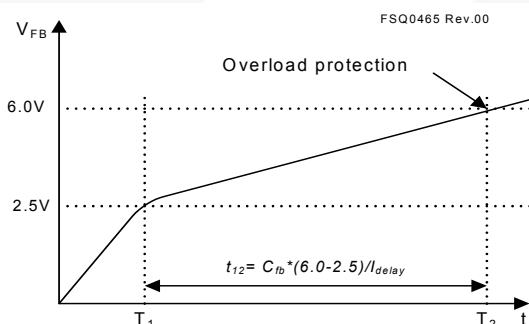

Figure 29. Overload Protection
**4.1 Overload Protection (OLP):** Overload is defined as the load current exceeding its normal level due to an unexpected abnormal event. In this situation, the protection circuit should trigger to protect the SMPS. However, even when the SMPS is in the normal operation, the overload protection circuit can be triggered during the load transition. To avoid this undesired operation, the overload protection circuit is designed to trigger only after a specified time to determine whether it is a transient situation or a true overload situation. Because of the pulse-by-pulse current limit capability, the maximum peak current through the SenseFET is limited, and therefore the maximum input power is restricted with a given input voltage. If the output consumes more than this maximum power, the output voltage ( $V_O$ ) decreases below the set voltage. This reduces the current through the opto-coupler LED, which also reduces the opto-coupler transistor current, thus increasing the feedback voltage ( $V_{FB}$ ). If  $V_{FB}$  exceeds 2.5V, D1 is blocked and the 5 $\mu$ A current source starts to charge  $C_B$  slowly up to  $V_{CC}$ . In this condition,  $V_{FB}$  continues increasing until it reaches 6V, when the switching operation is terminated, as shown in Figure 29. The delay time for shutdown is the time required to charge  $C_B$  from 2.5V to 6V with 5 $\mu$ A. A 20 ~ 50ms delay time is typical for most applications.